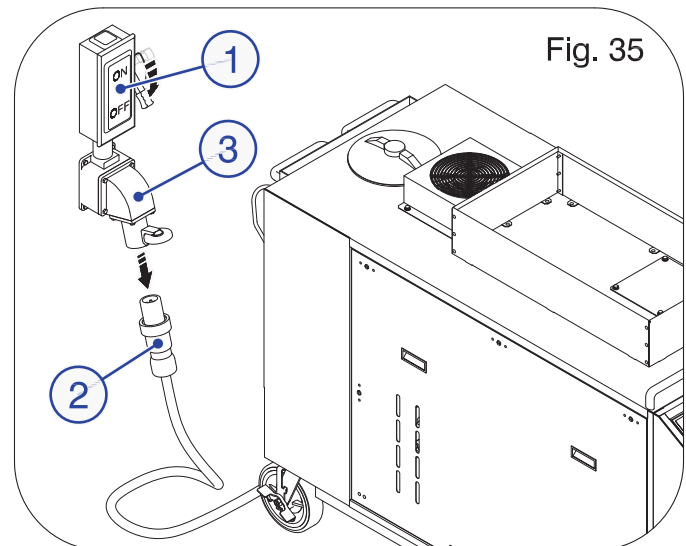

Fig. 35
- ☞ To remove the Steam Generator from power, place the Main Disconnect Switch (**1-Fig. 35**) in the **OFF** position and unplug, if a Plug (**2-Fig. 35**) and Socket (**3-Fig. 35**) is installed.